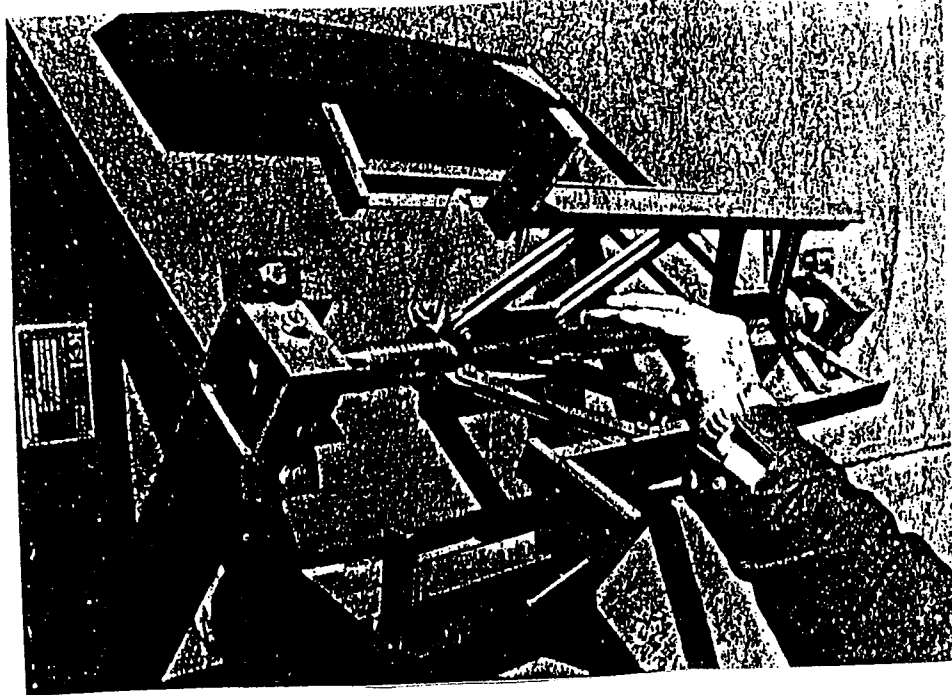
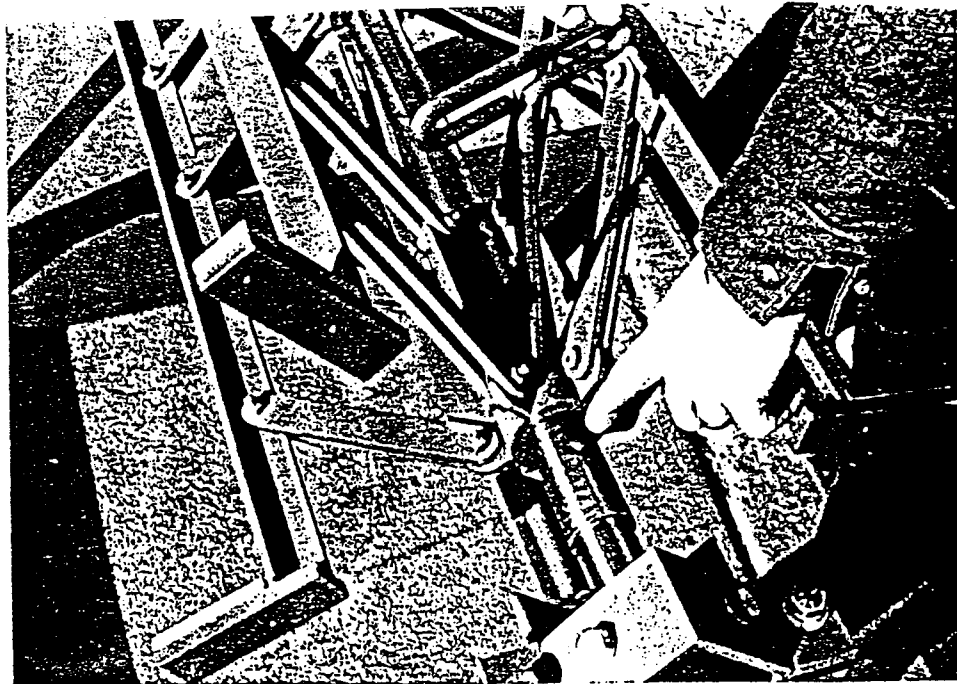

FIGURE 3
FIGURE 5
- 1.) Remove the 3 locating bolts holding the arbor on the fixed side.(See FIGURE 3 and 4). Slide the collar on the shaft until the next (See FIGURE 5) hole in the shaft and the holes in the collar align together. Insert the locating bolts and tighten firmly. Now the arbor is ready to adjust to a smaller or larger inside diameter.